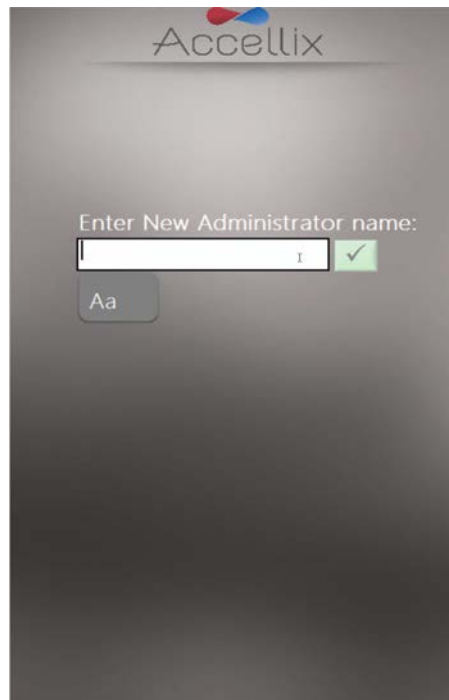

Figure 9: Add User screen
| Add  | Add user (see Figure 9) |
1. Tap the **Add** icon . The **Add User** screen (Figure 9) is displayed: